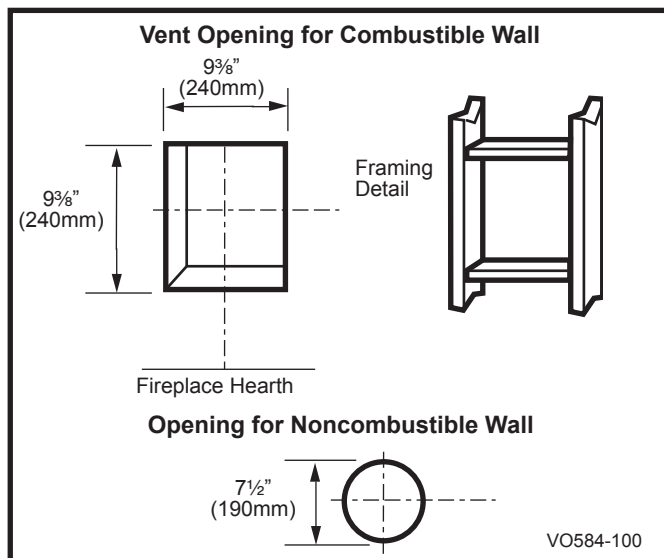

Fig. 43 Locate vent opening on wall.
Locate vent opening on the wall. It may be necessary to first position the fireplace and measure to obtain hole location. Depending on whether the wall is combustible or noncombustible, cut opening to size. (Fig. 43)
Combustible Walls: (Fig. 43) Cut a 9 $\frac{3}{8}$ "H x 9 $\frac{3}{8}$ "W (240 x 240 mm) hole through the exterior wall and frame as shown.
Noncombustible Walls: (Fig. 43) Hole opening must be 7 $\frac{1}{2}$ " (190 mm) in diameter.
1. Establish vent hole through the wall. (Fig. 43)